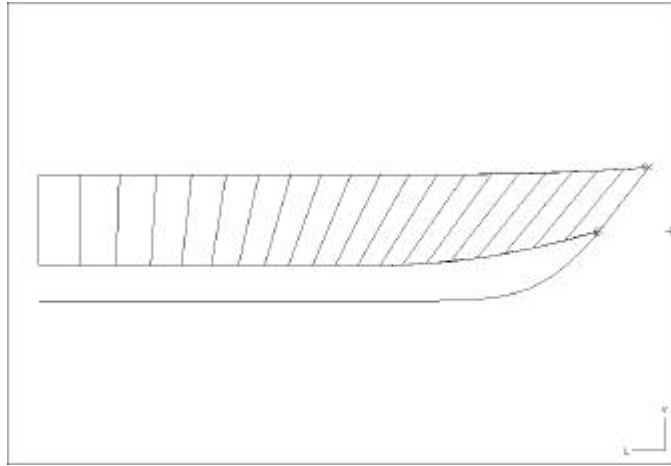

Figure 1-12: Topside surface, profile view (note the visibility of the Bottom surface has been turned off)
3. Click the **Mesh** button to see the ruling lines. (See Figure 1-12.)